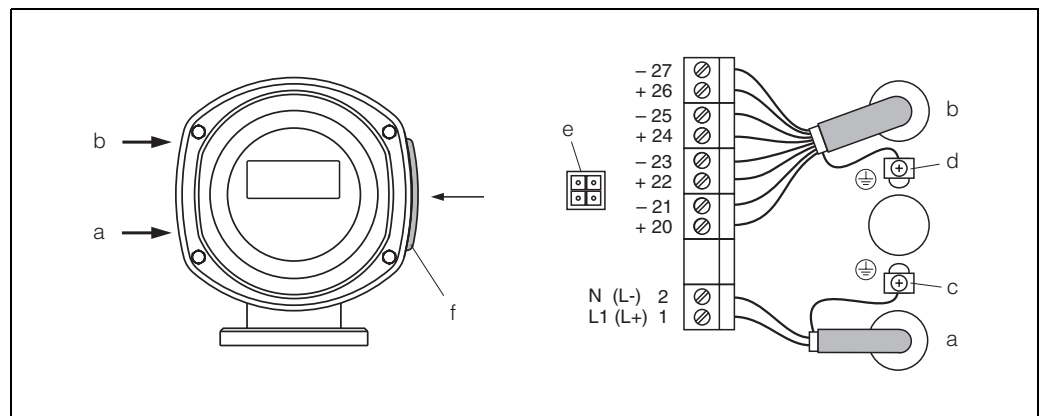

Fig. 19: Connecting the transmitter (stainless steel field housing); cable cross-section: max. 2.5 mm2
- Wiring diagram (stainless steel housing) → Fig. 19